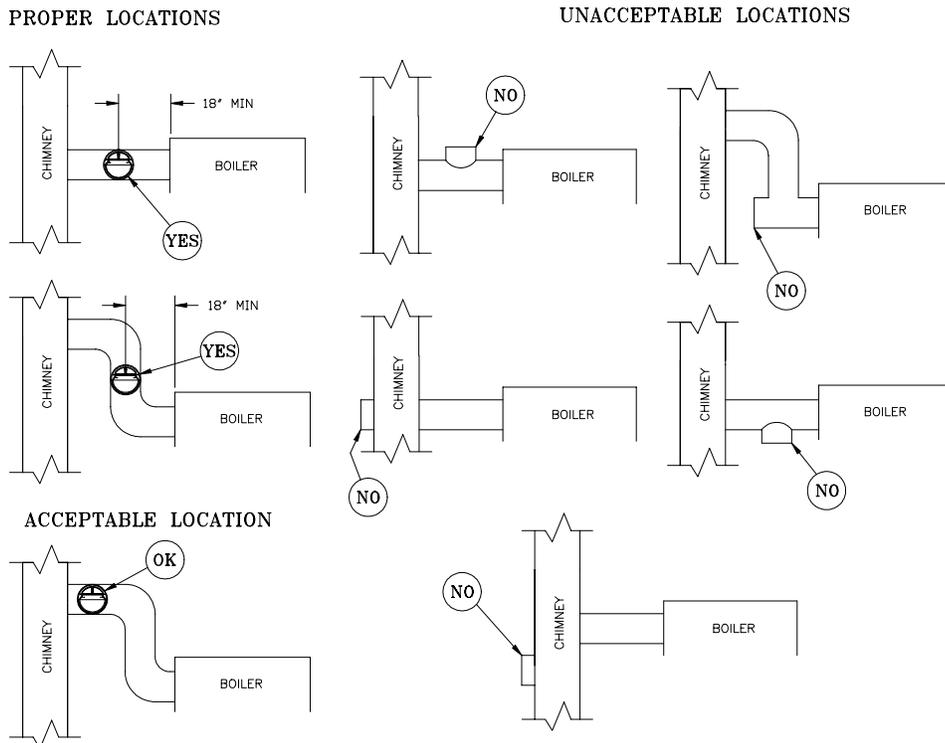

Figure 7: Proper and Improper Locations of Draft Regulator
1. Install a draft regulator following the instructions furnished with the regulator. See Figure 7 for alternate draft regulator locations.